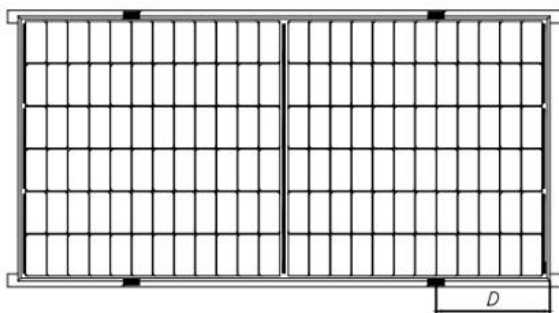

Fig.3 Rails overlapping the long-side frame
When PV modules are installed, each PV module must be fixed with at least 4 presses, as shown in Figures 3 、 4、 5、 6.
⑧ For the mounting shown in Figure 3, the overlap between the C surface of the module and the rail should be $\geq 25\text{mm}$. Astronergy's limited warranty will be void if improper clamps or improper installation is used.